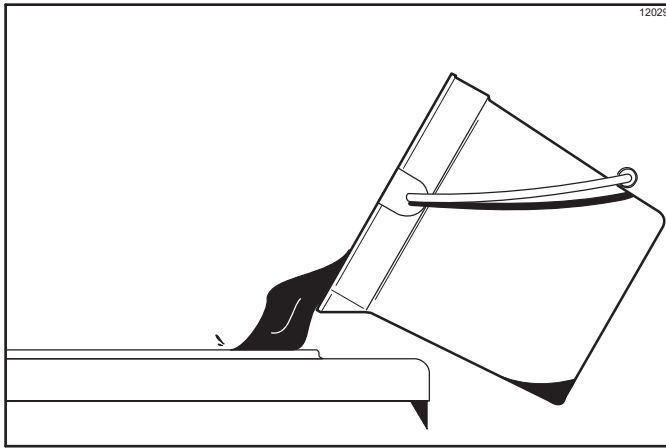

Figure 6-40
- Pour 2 gal. (7.6 L) of cool, clean water into the mix hopper. With the hopper brush, scrub the mix hopper, mix-level sensing probe, and the outside of the agitator driveshaft housing (factory-equipped agitator machines only). Using the double-ended brush, clean the mix inlet hole. (See Figure 6-40.)